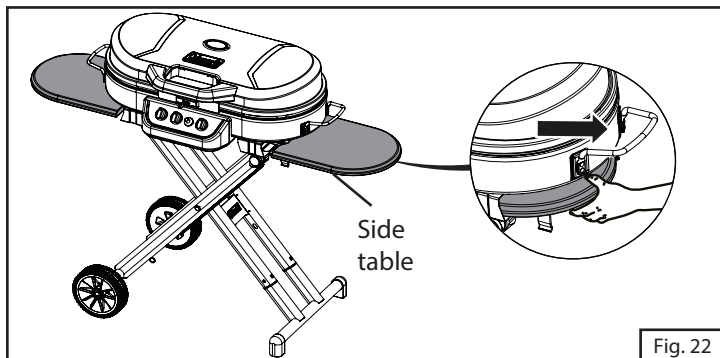

Fig. 22
1. To extend side tables, grasp hold of side tables on bottom of grill and slide out until fully extended. (Fig. 22)